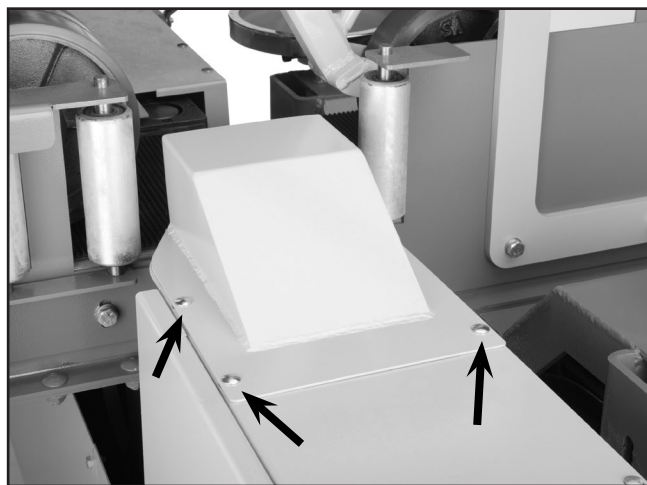

Figure 12. The blade cover.
2. Drop the carriage bolts into the holes indicated in **Figure 12**.